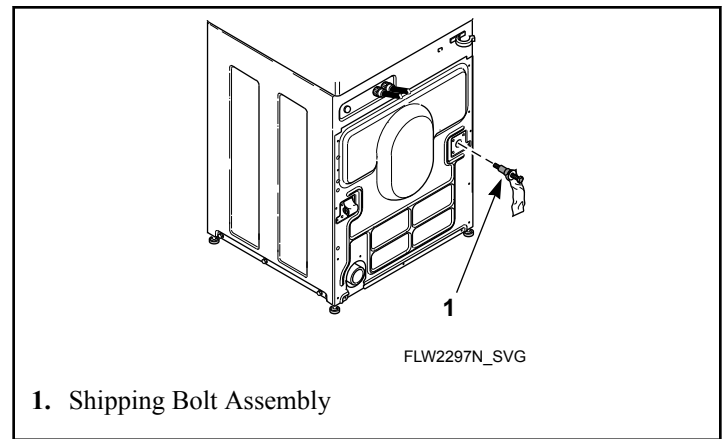

Figure 54
7. Insert shipping bolt assemblies into each shipping bolt hole. Refer to *Figure 54*.